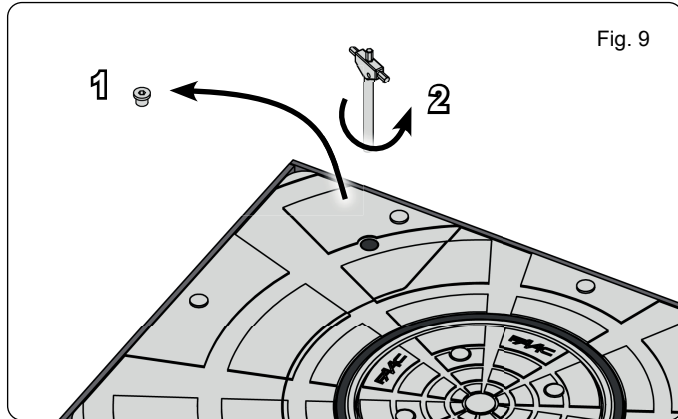

Fig. 9
1. Loosen the closing screw located on the bollard head (fig. 9 ref.1).
3. Turn counter-clockwise to lower the bollard (fig. 9 ref.2).